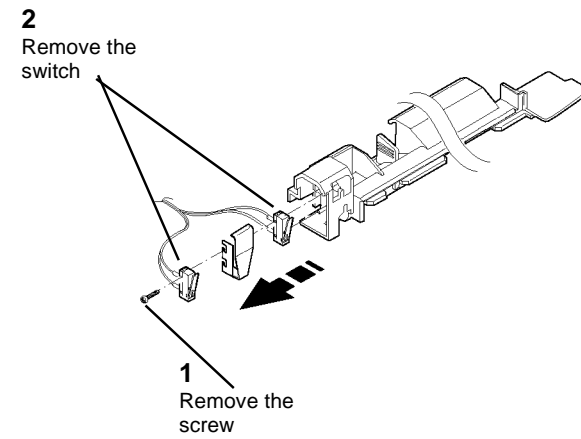

Figure 2 Removing the Side Door Interlock Switch
3. (Figure 2): Remove the Side Door Interlock Switch.